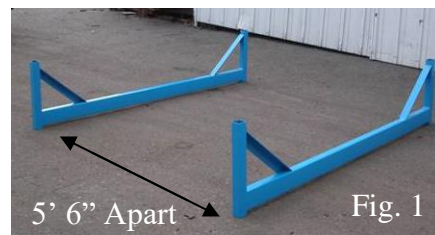

Fig. 1
- Place the legs in the desired location and stand them upright so that the plastic caps are on the floor (Fig. 1). The legs will run perpendicular to the length of the Tumbl Trak™ like railroad ties. Space the legs out approximately 5' 6" apart from each other. Two legs will be used for every 10' of Tumbl Trak™ Frame.